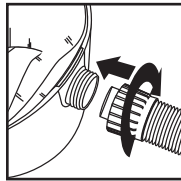

FIGURE 31
43. Reinsert hose into inlet and tighten locking-nut. **FIGURE 31.**